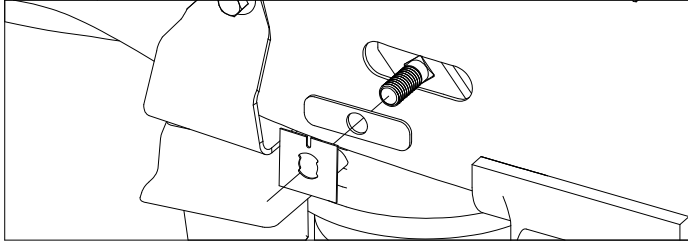

Figure A11: View looking into driver side wheel well.
15. Install rear carriage bolt. Pass the carriage bolt and locking strap into the frame through the forward mounting slot and pull the fish wire until the threaded end of the carriage bolt is through the locking strap and has passed out of the rear mounting slot. Install a rectangular frame spacer onto the carriage bolt and place it into the slot in the frame. Install a retainer onto the carriage bolt until it is snug, see Figure A11.